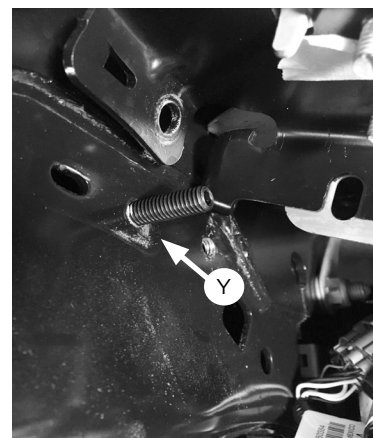

Fig. 22
3. Install the 50mm set screw (Y) into the rearward threaded hole. Leave about 30mm (1.20") protruding from the frame (Fig. 22).